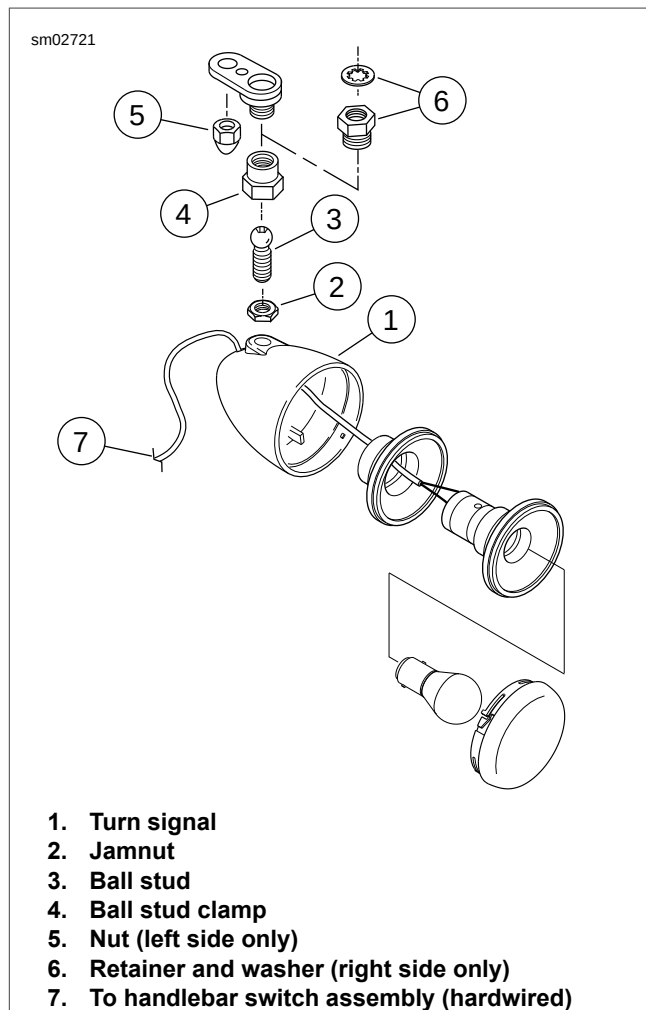
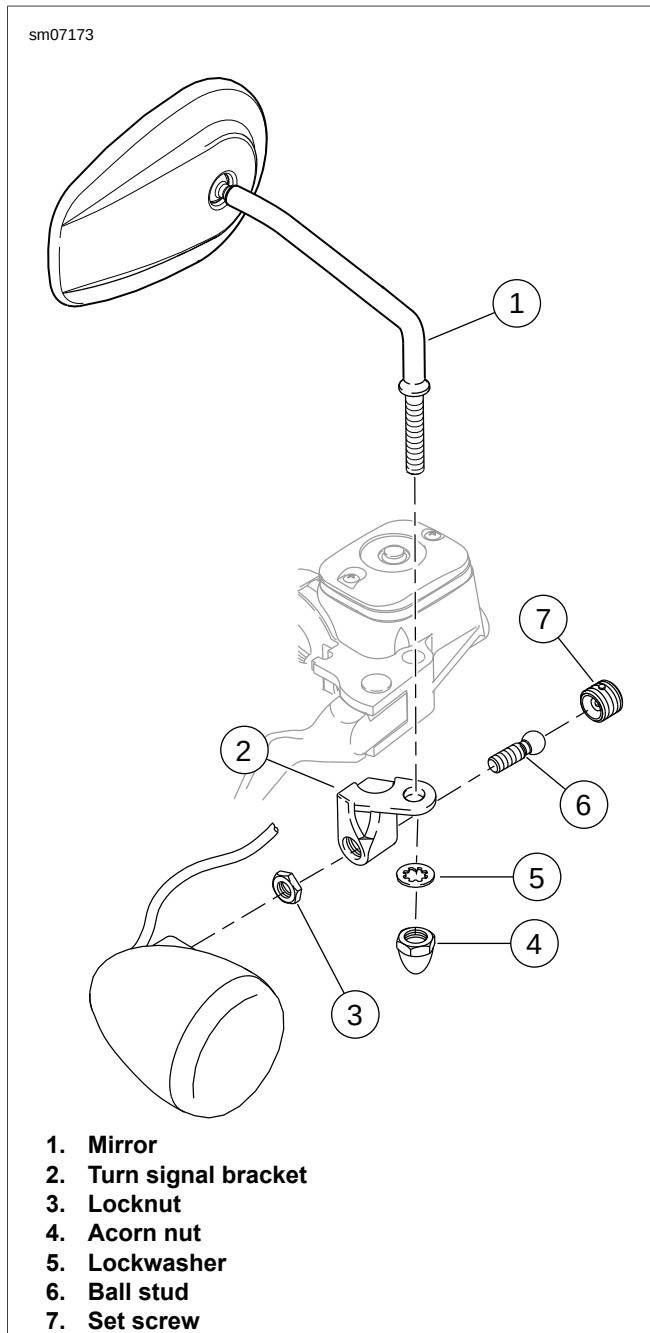

Figure 7-54. Front Turn Signals: FXST, FLSTF/B, FXS
Figure 7-55. Front Turn Signals: FLS, FLSTFB, FXS
- a. See Figure 7-54. On right side, hold retainer (6) and loosen ball stud clamp (4) to remove turn signal.
- b. On left side, remove nut (5) from mirror, loosen jamnut and remove ball stud clamp (4) to detach turn signal.
- a. Hold retainer (6) and loosen ball stud clamp (4) to remove turn signal.
- b. See Figure 7-55. On left side, loosen locknut (3) from turn signal bracket (2), remove ball stud (6) to detach turn signal.